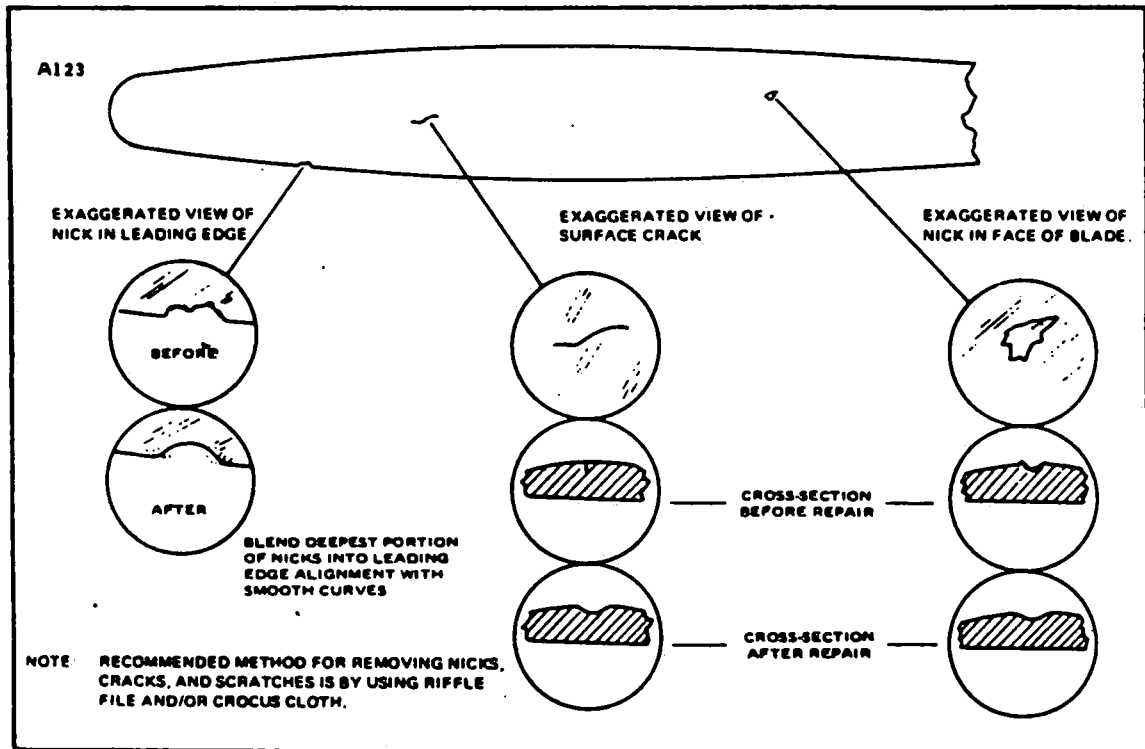

Figure 8-3. Typical Nicks and Removal Methods
g. Inspect blades for damage or cracks. Nicks in leading edges of blades should be filed out and all edges rounded, as cracks sometimes start from such places. Use fine emery cloth for finishing. Refer to Figure 8-3 for propeller blade care.